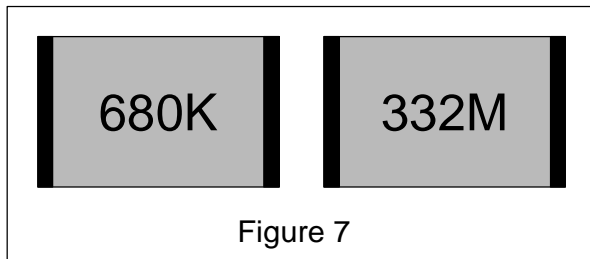

Figure 7
*Note that, like the 5 band colour coding scheme, the alpha-numeric scheme is easily subject to misinterpretation. Consider the components shown in Figure 7.*